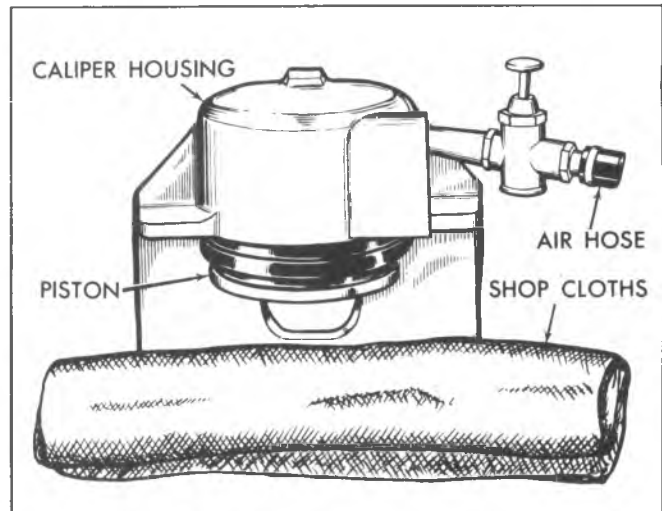

Fig. 5-40-Removing the Caliper Piston
3. Using clean shop cloths, pad the interior of the caliper and remove the piston by directing compressed air into the caliper inlet hole (fig. 5-40).